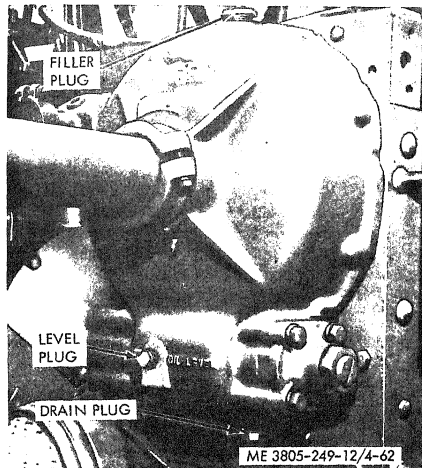

Figure 4-62. Blade lift control housing.
(1) Remove the filler plugs and drain plugs from both housings (fig. 4-62). Allow the oil to drain. Clean and reinstall drain plugs.